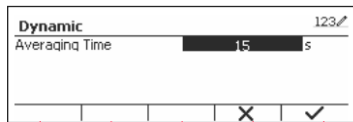

Figure 80
2. Press the softkey corresponding to the  icon. Then enter desired value using keypad. (See Figure 80)